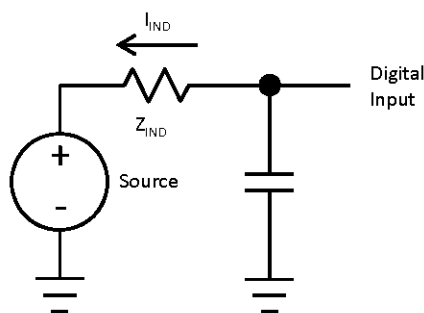

Figure 2. 5 V Tolerant Input I_{IND} Parameter
5. Examples calculated using V_{IL} relation, V_{DD} , and max I_{IND} : $Z_{IND} = V_{IL} / I_{IND}$. This is the impedance needed to pull a high signal to a level below V_{IL} due to leakage when $V_{IL} < V_{IN} < V_{DD}$. These examples assume signal source low = 0 V. See Figure 2.